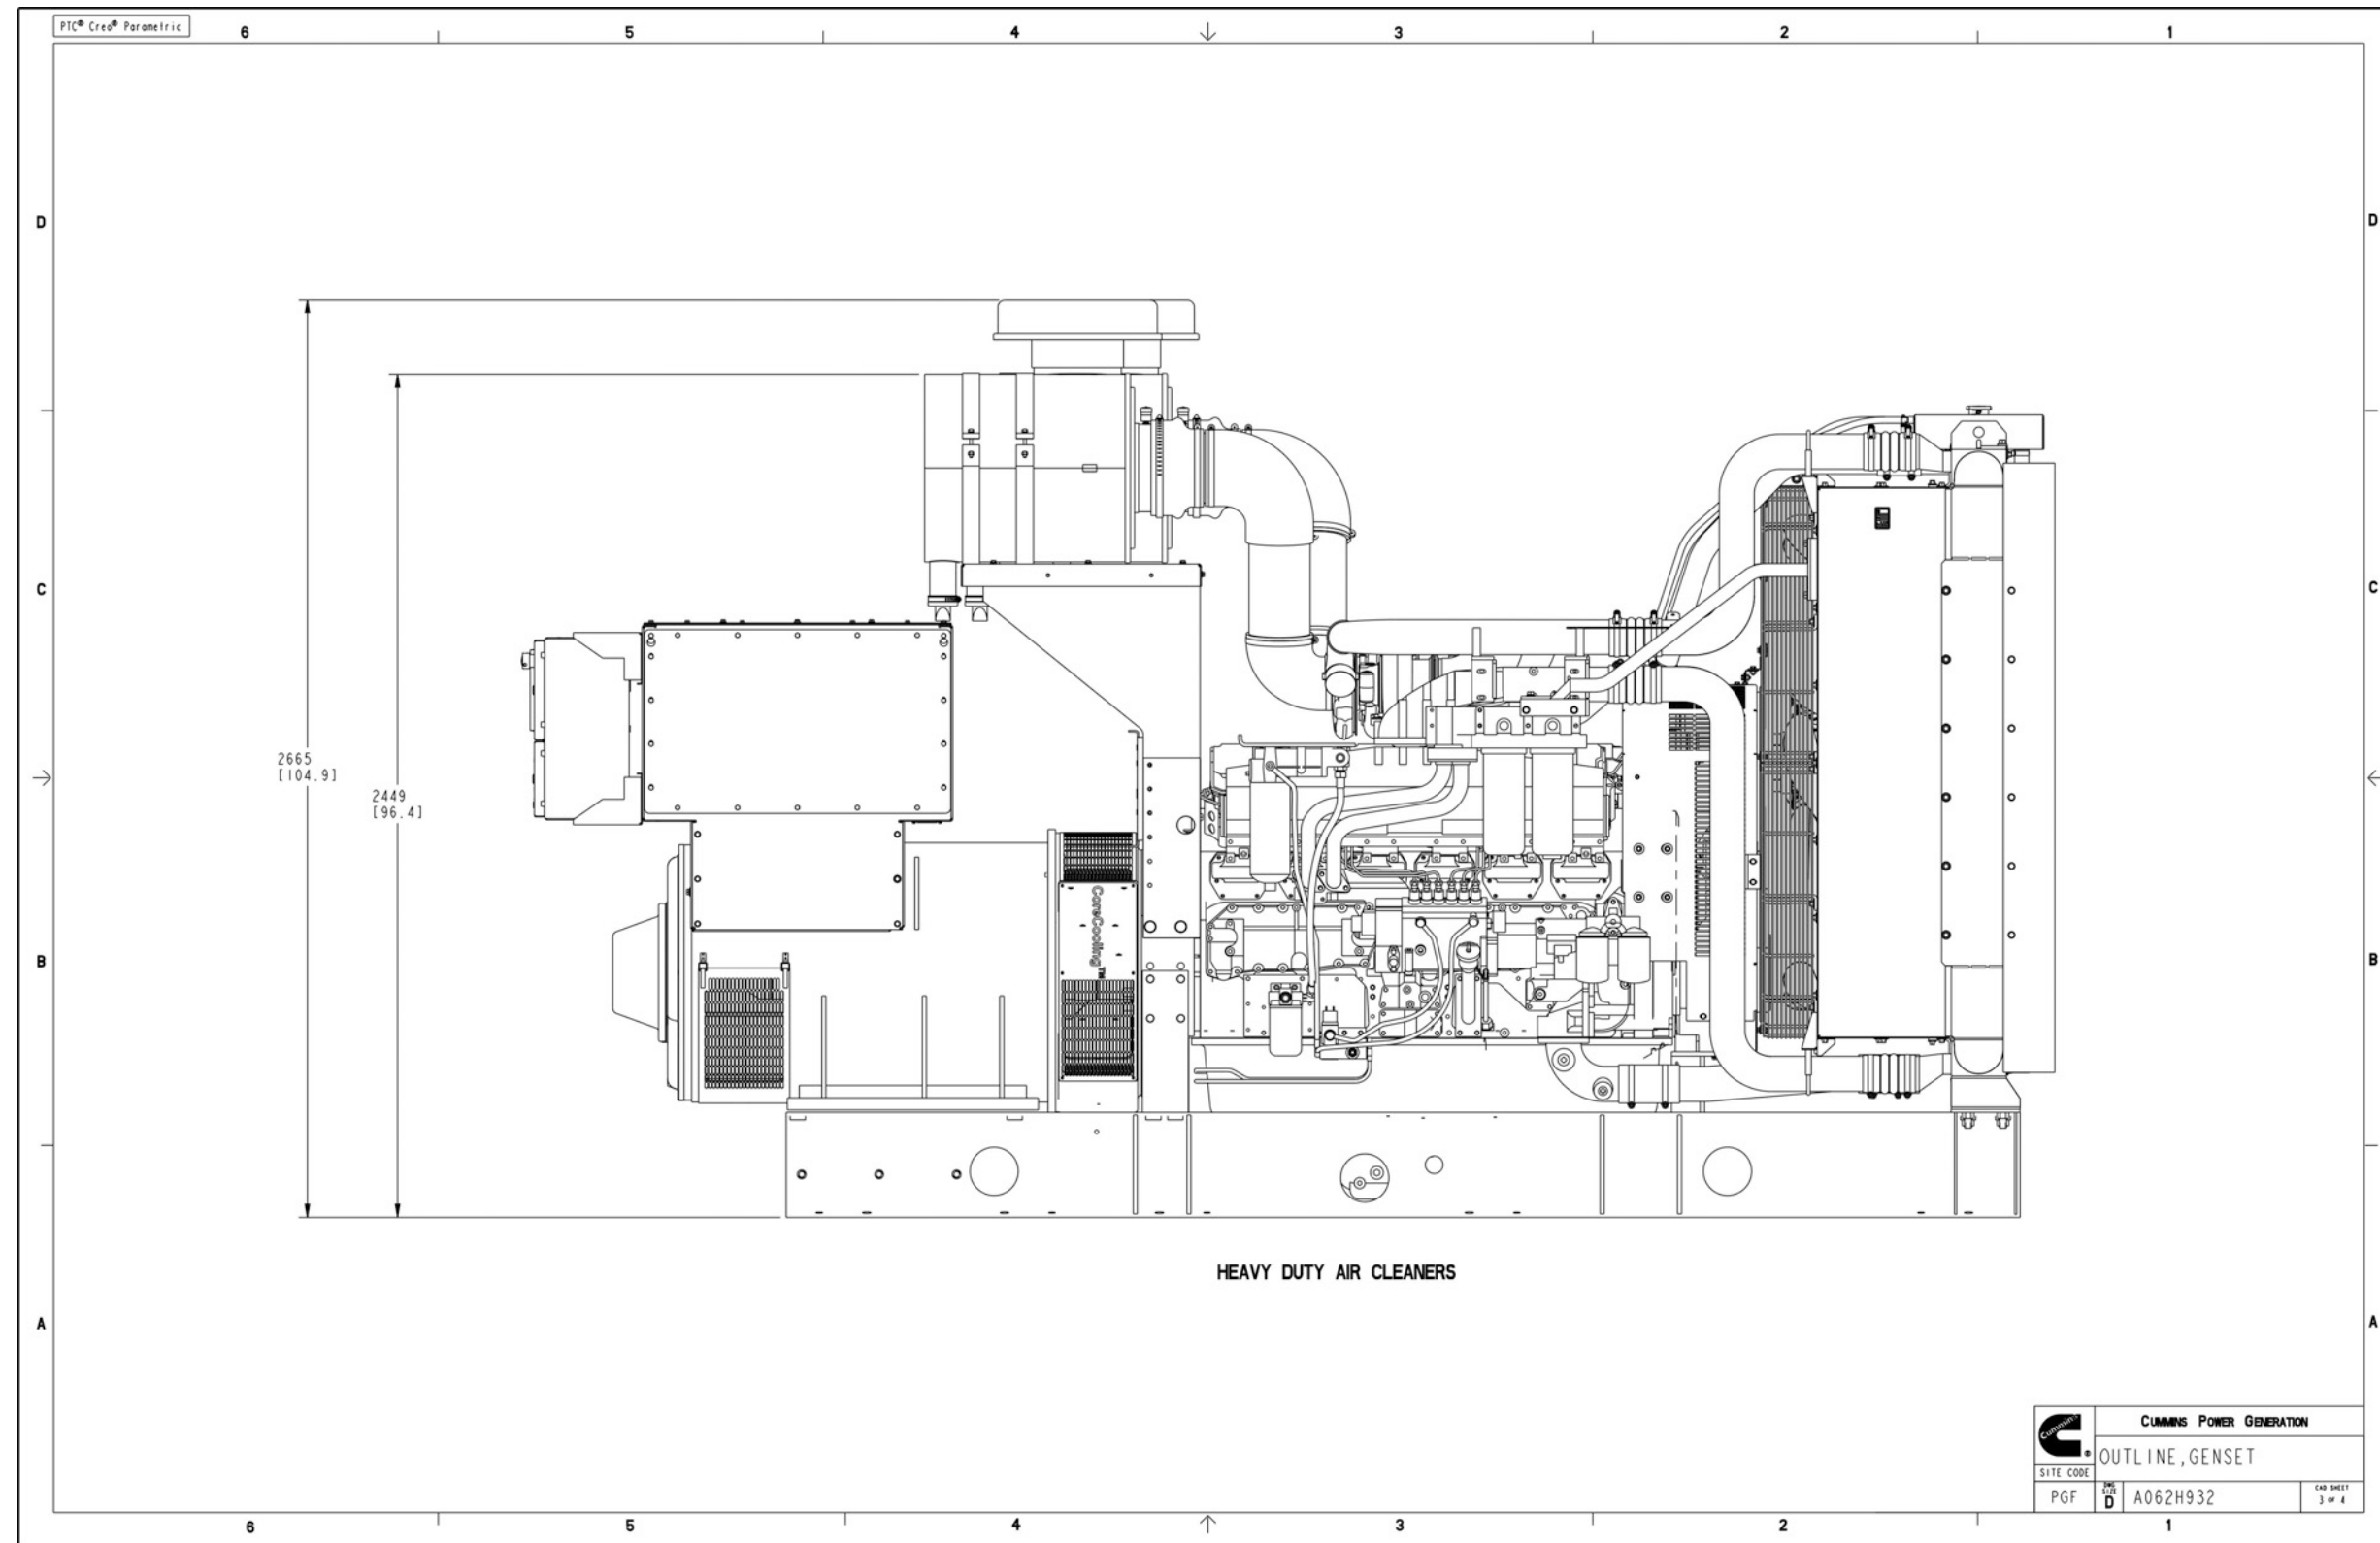

FIGURE 71. GENERATOR SET OUTLINE DRAWING (SET MOUNTED RADIATOR) (SHEET 3)
- Figure 71. Generator Set Outline Drawing (Set Mounted Radiator) (Sheet 3) 137